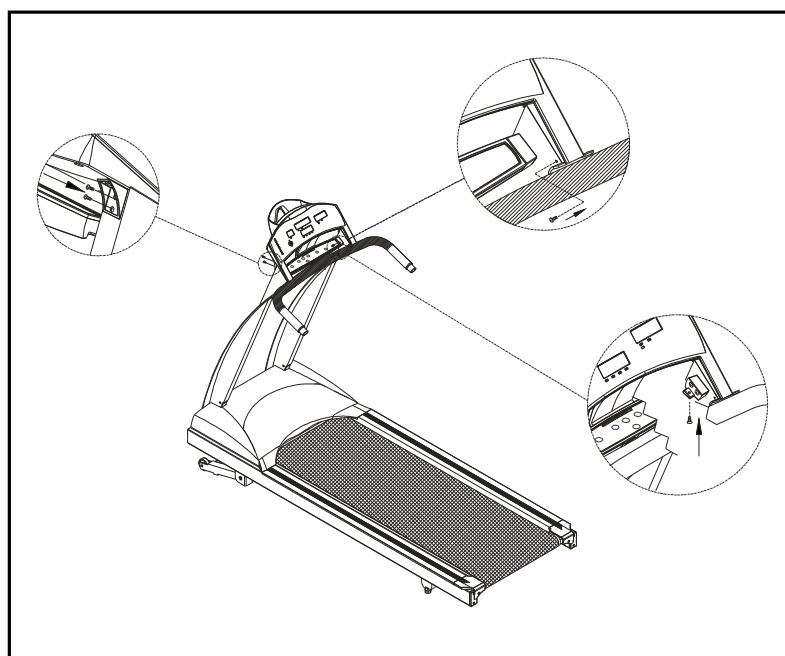

Fig.6
8. Use the screwdriver to tighten all screws securely (see Fig. 6).